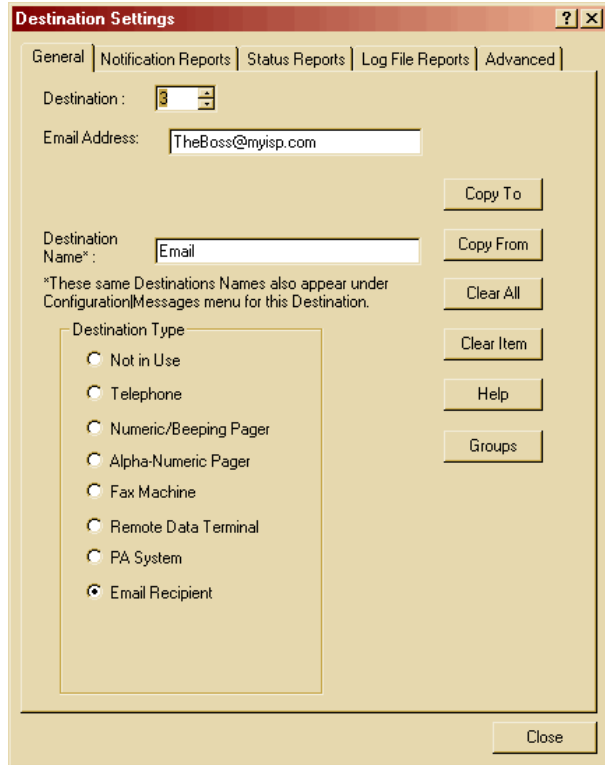

Figure 27: Destination Settings, General, Email Reports
25. To configure an **Email Recipient** destination, select the **General** tab and set the **Destination** to #3. Then set the **Destination Type** to **Email Recipient** and configure as shown in Figure 27, entering your **Email Address** and **Destination Name**.